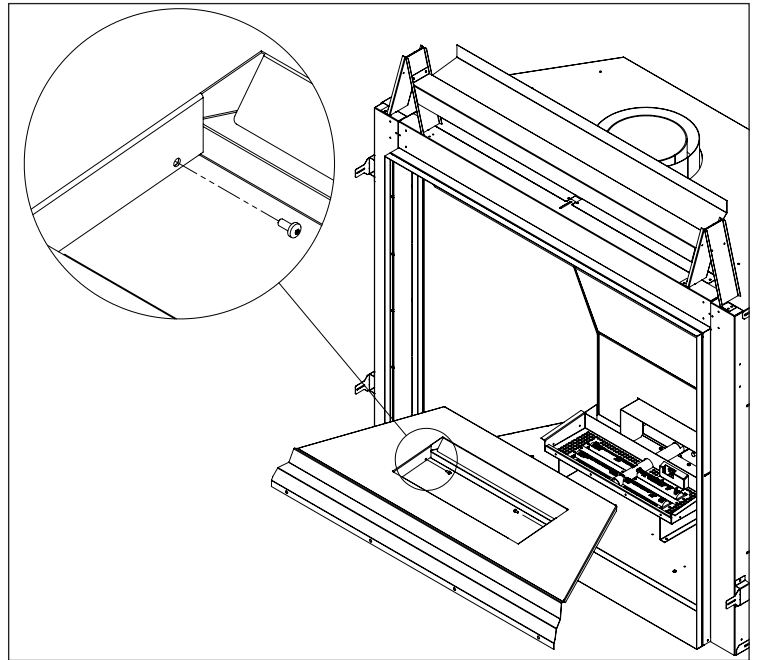

Figure 8: Porcelain Tray Removal
5. Remove the Porcelain Tray by removing the two (2) T-20 screws on each side (4 total) of the burner recess (see Figure 8).